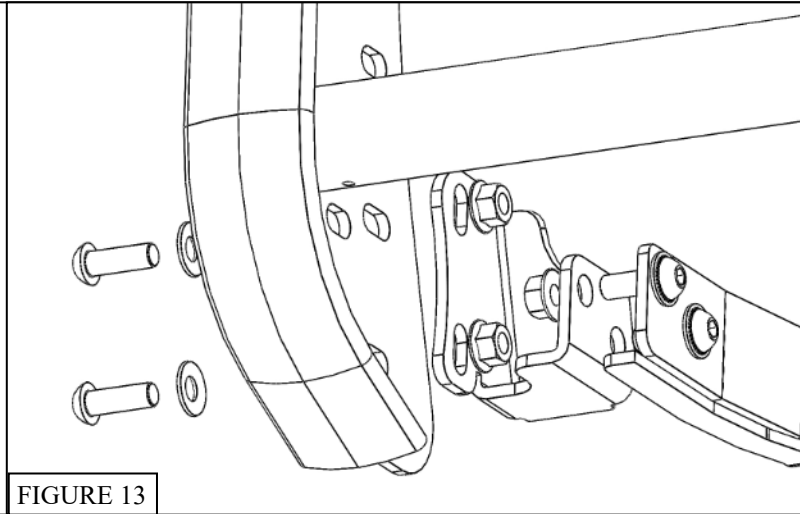

FIGURE 13
16. Install the extension brackets (6 & 7) (**Figure 13**) using M12 button head bolts (13) M12 Bellville washer (14) and M12 serrated flange nut (15) leave hardware loose for now.
17. Install the push bumper (1) (**Figure 13**) using M12 button head bolts (13) M12 Bellville washers (14) and M12 serrated flange nuts (15). Slightly tighten hardware for now to secure the push bumper.